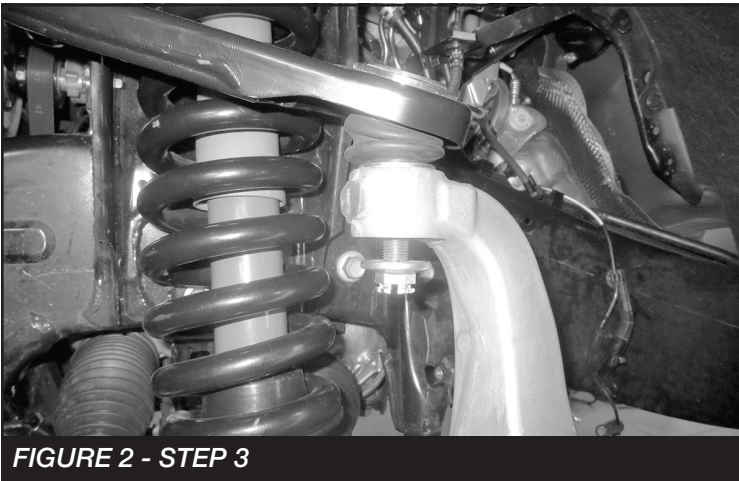

FIGURE 2 - STEP 3
3. Remove the cotter pin from the tie rod end ball joint nut. Loosen the nut and using a hammer strike the knuckle ball joint housing to dislodge the upper control arm from the knuckle. Do not remove the nut at this time. **SEE FIGURE 2**